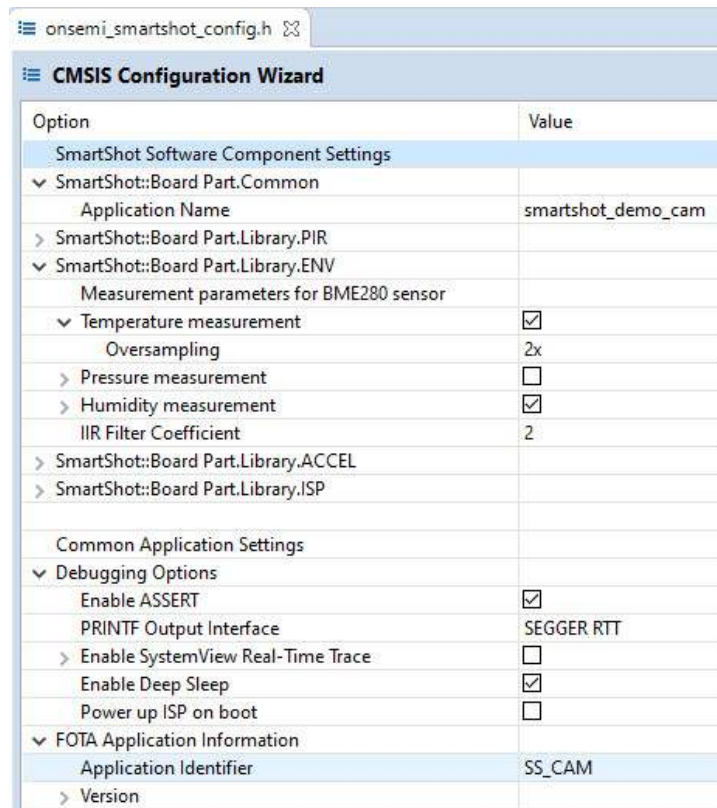

Figure 12. Example Content of onsemi_smartshot_config.h Header opened in Configuration Wizard
- RTE/Board_Support/onsemi_smartshot_config.h – Allows to configure options exposed by the Board Support components (Figure 12).